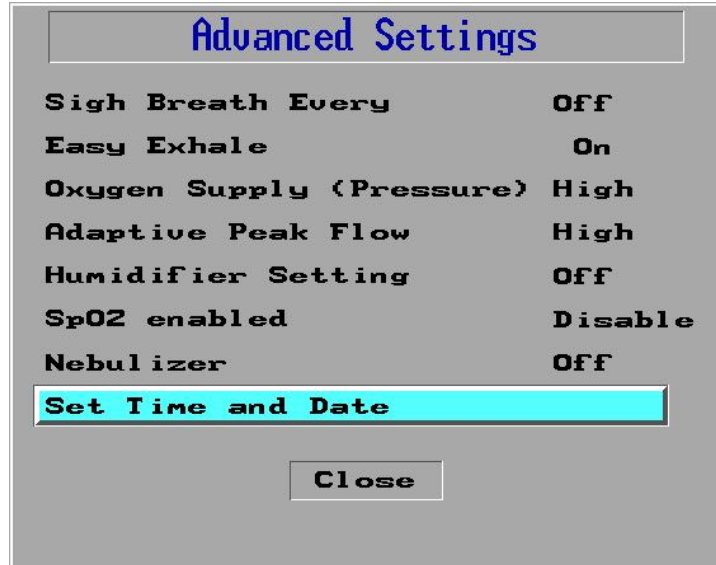

Figure 93: Set Time and Date Chosen
2. In the **Advanced Settings** screen select **Set Time and Date** (Figure 93)